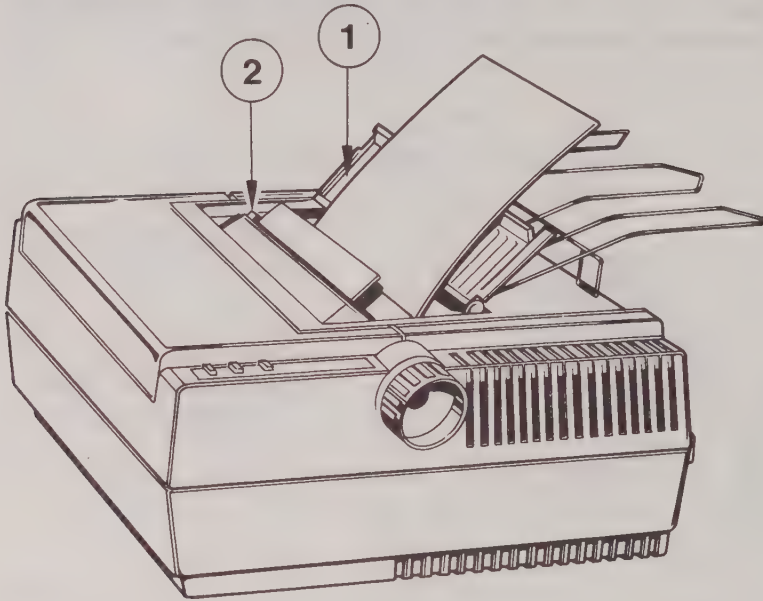

Fig. 5/3 Single sheet insertion
- Raise lid for single sheets (1, Fig. 5/3).
- Press paper pressure arm (2) to the front.